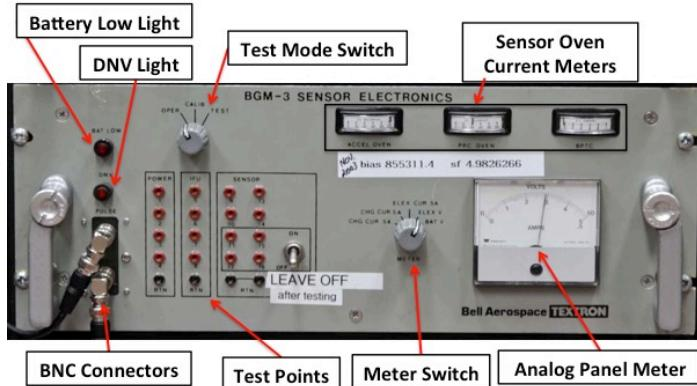

Figure 2. Sensor Electronics Front Panel
- Figure 2. Sensor Electronics Front Panel
As shown in Figure 2, the Sensor Electronics front panel has an analogue panel meter on the lower right side, with a selector knob to toggles between: